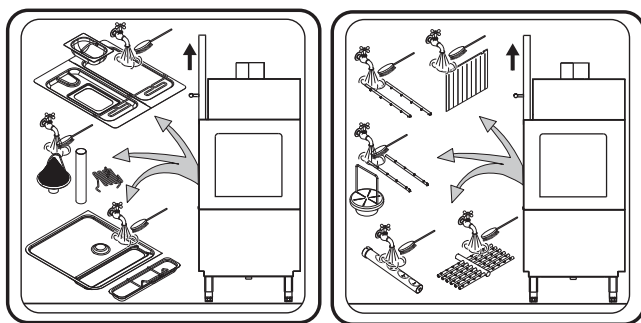

Figure 29 Cleaning filters and arms
- Open the machine doors and remove the filters, overflows and prewash, wash and rinse arms (Figure 29) and wash them carefully with hot water and neutral detergent/deterative, if necessary using a soft brush or sponge. If necessary remove the end plugs from the wash arms and rinse them.